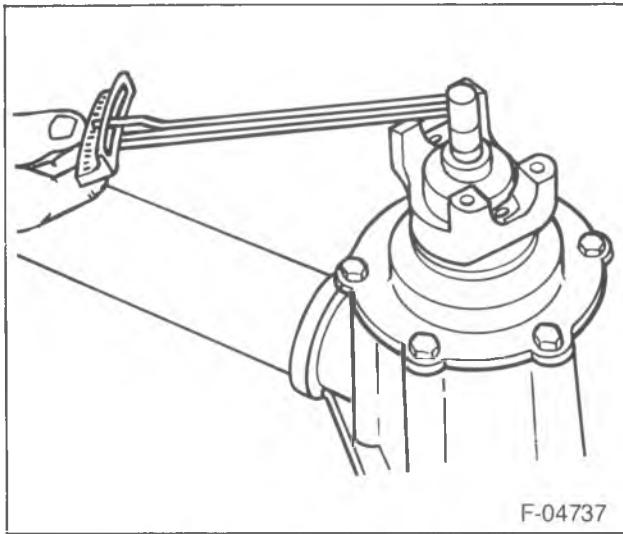

Figure 12—Checking Pinion Preload
- Remove J 8614-01. Using an inch-pound torque wrench, check the pinion preload by rotating the pinion with the wrench. Preload should be at or below 2.8 to 4.0 N·m (25 to 35 in. lbs.) for new bearings, or 0.56 to 1.7 N·m (5-15 in. lbs.) for used bearings (figure 12).
- 11. Pinion cage (10) to the axle housing. Refer to "Pinion Installation" in this section.